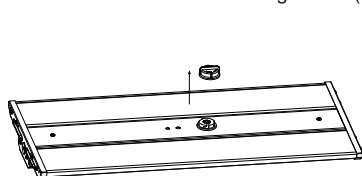

Figure 17
Step1. Remove the sensor cap from the Zhaga base (Figure 17)